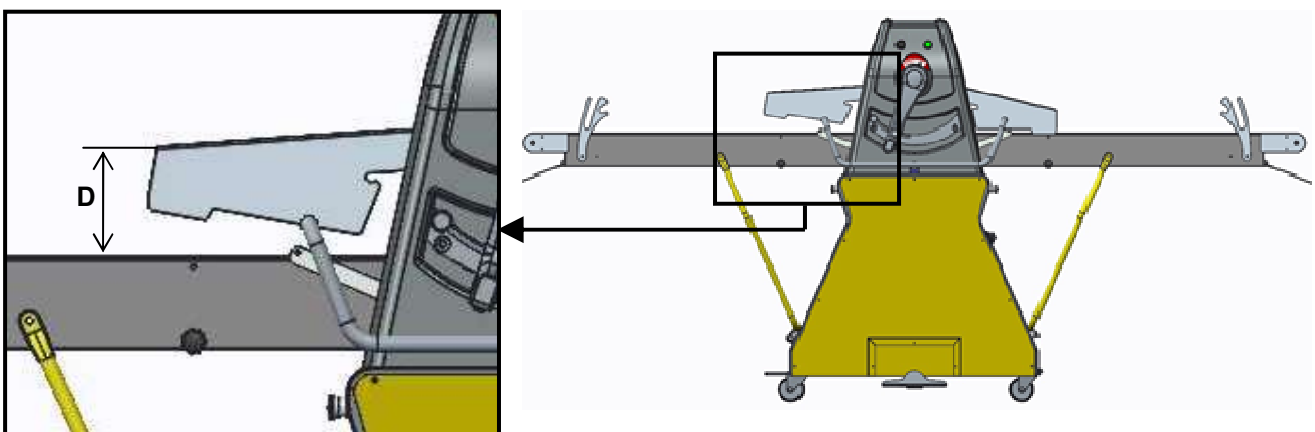

Figure 46 - Interlocked guards in front and behind the rolling zone
- Interlocked mobile guards, each associated with a safety micro switch**, positioned in order to protect the rolling zones and, in general, the zones subject to the hazards indicated with the letter A in section 5.2.1. They can be lifted from one end as they are able to rotate about a horizontal pin. They consist of a steel plate in which slits have been made in to order to make the rolling area visible. If a guard is raised, the associated micro switch, which has normally closed contacts, if forced open (positive) causes all parts of the machine to stop. The micro-switch trips when a guard is lifted and the distance D between the edge of the guard and the conveyor belt (see Figure 46) exceeds a limit value **D_{max}**, which must not, under any circumstances be greater than:
- the micro switch trips and stops all moving parts of the machine when the distance **D** between the edge of the guard and the conveyor belt underneath it (see Figure 46) does not exceed the D_{max} value indicated in section 5.2.2, point 1.